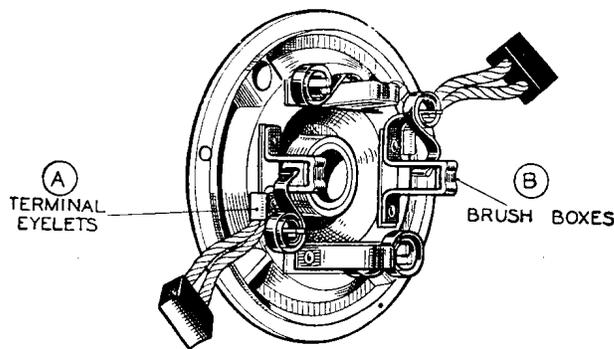

Fig. N.12.
- If the brushes are worn so that they no longer bear on the commutator, or if the flexible connector has become exposed on the running face, they must be renewed. Two of the brushes are connected to terminal eyelets "A" (Fig. N.12) attached to the brush boxes